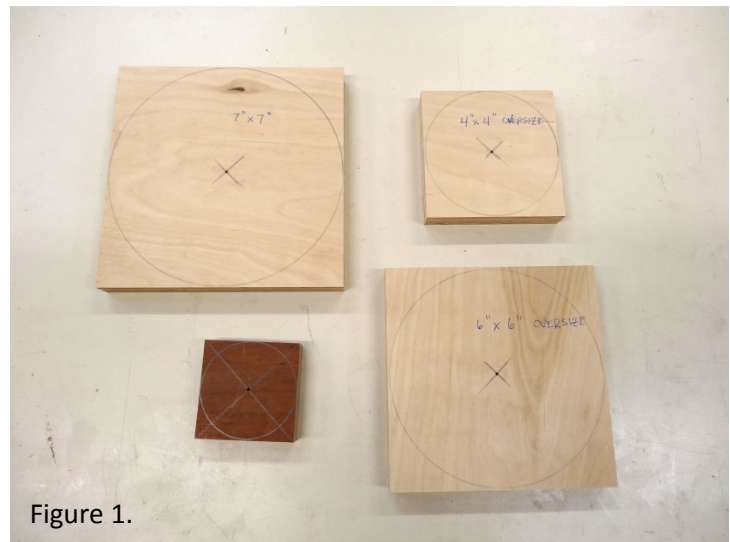

Figure 1.
1. There are five main pieces required – three from  $\frac{3}{4}$ " plywood and two from  $\frac{3}{4}$ " thick hardwood (Figure 1).